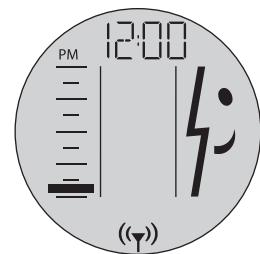

Figure 60: InfoKey Showing Approximately 10% PT Charge Left
2. Discharge the Batteries (through normal use of the PT) until the bottom bar in the Display is blinking, representing approximately 10 percent Battery charge remaining (see **Figure 60**).